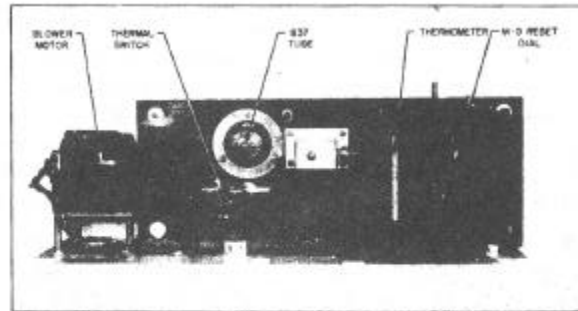

Figure 1-4—Master Oscillator Unit
**e. Master Oscillator.**—The M-O Unit, shown in Fig. 1-4, houses all of the components of the master oscillator with the exception of the plate tank circuit, or work circuits. The box, housing this unit, is made of an aluminum casting with an outside covering of balsa plywood for heat insulation. The dial and controls are mounted on the front panel and the oscillator tube is accessible through the tube door.